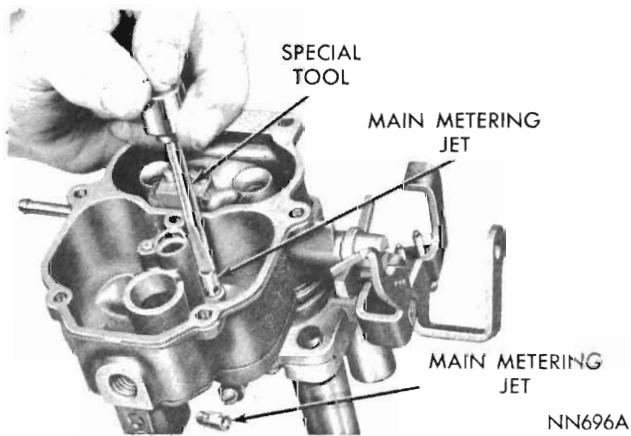

Fig. 3 - Removing or installing main metering jets
(12) Remove the main metering jets, as shown in (*Fig. 3*).
(6) Install the main metering jets and tighten securely. Refer to (Fig. 3).